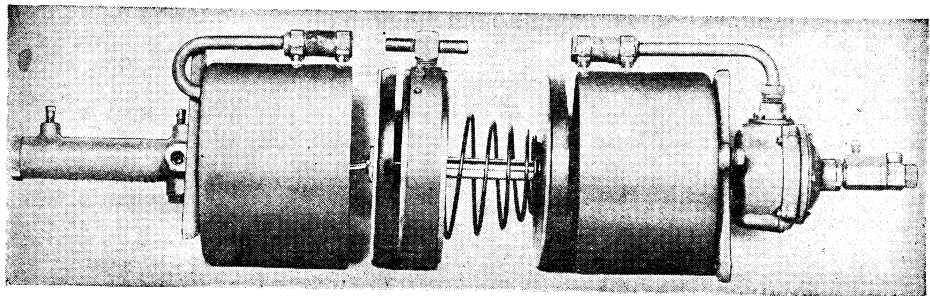

Fig. 7 Cylinder shells removed from center plate
5. Separate cylinder shells from center plate, Fig. 7. Hold over a pan to catch the oil as the parts are separated.